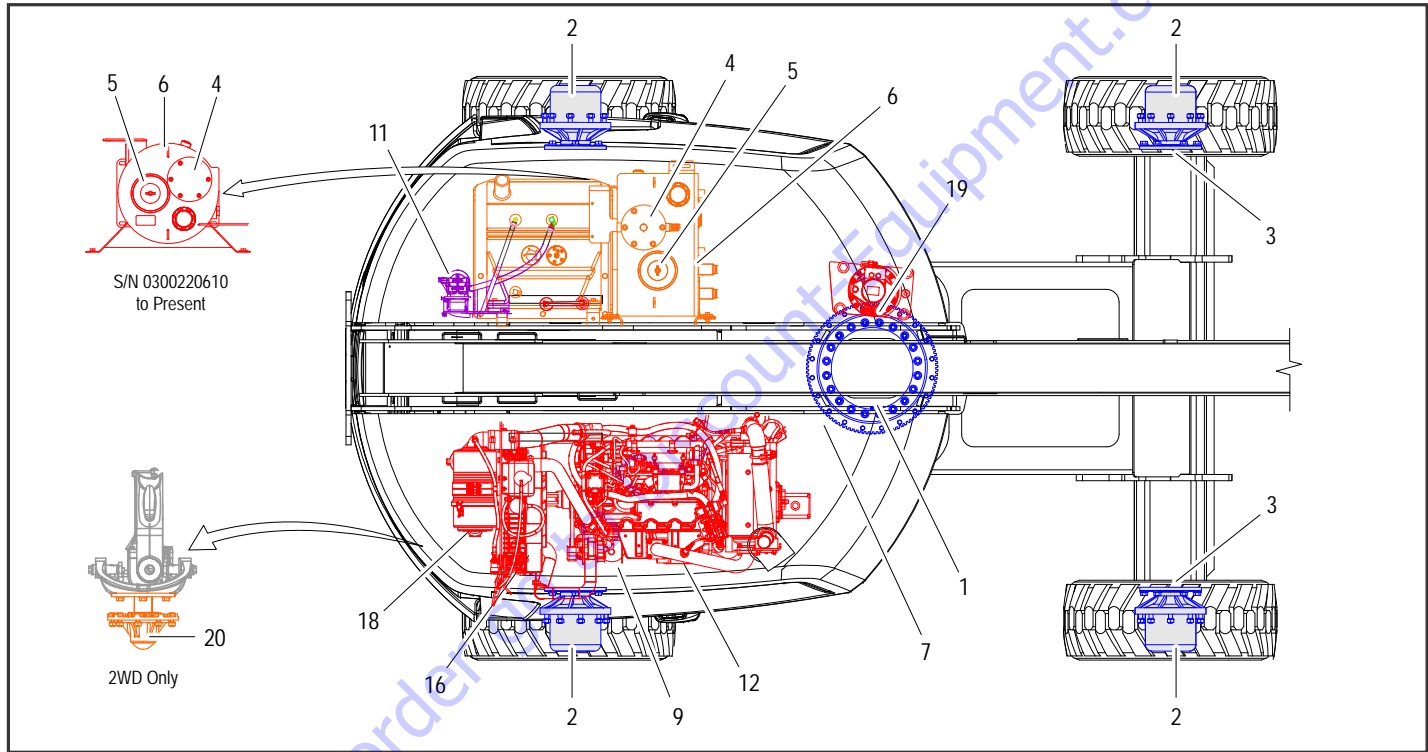

Figure 7-8. Operator Maintenance and Lubrication Diagram - Deutz 2.9L Engine
**NOTE:** The following numbers correspond to those in Figure 7-8., Operator Maintenance and Lubrication Diagram - Deutz 2.9L Engine.